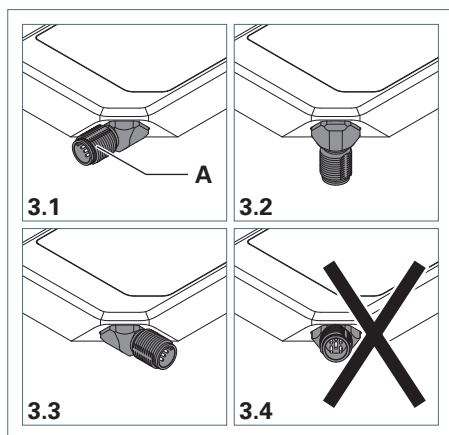

Fig. 3: APA – Positions of the plug.
- ▶ Turn the plug **A** to the intended position, see Fig. 3. The position 3.4 is not allowed, since it has no function.